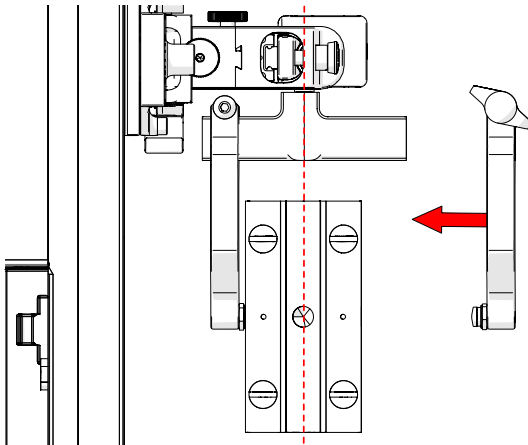

**Fig. 120** - Remove outer arm
3. Loosen the probe holder adjustment knob and remove the outer probe holder arm (*Fig. 120*).